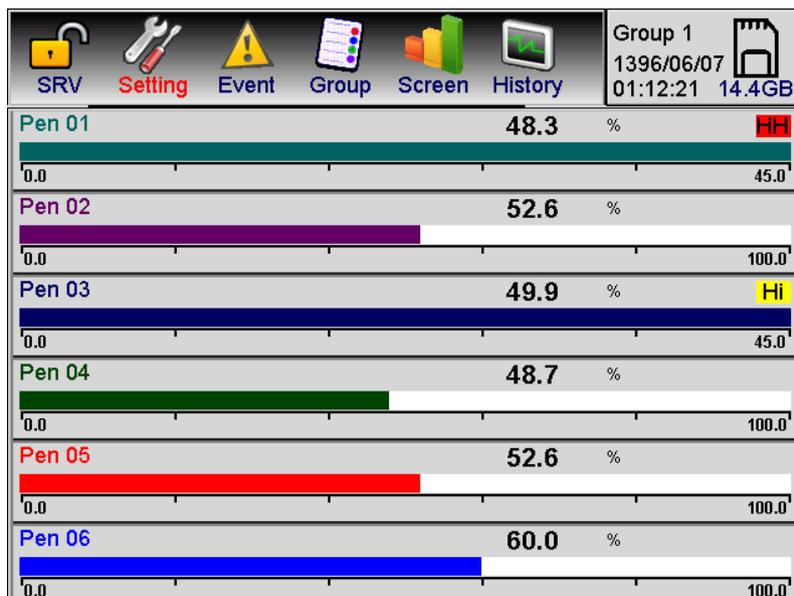

Figure D-3: Displaying alarm in Horizontal bar graph
- In the Single Indicator submenu, if there are alarms on any of the pens (as shown in Figures D-3, E-3, and F-3), the alarms are displayed in yellow in Hi and L modes, and in red in HH and LL modes in the pen bar with alarms. If it is normal, the color of the bar graph will be green.